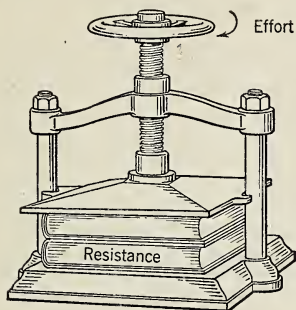

FIG. 287. The letter press.
4. The threads of a letter press are $\frac{3}{16}$ in. apart. If a force of 40 lb. is applied to the rim of a 14-in. wheel, what is the force of compression? (See Fig. 287.)